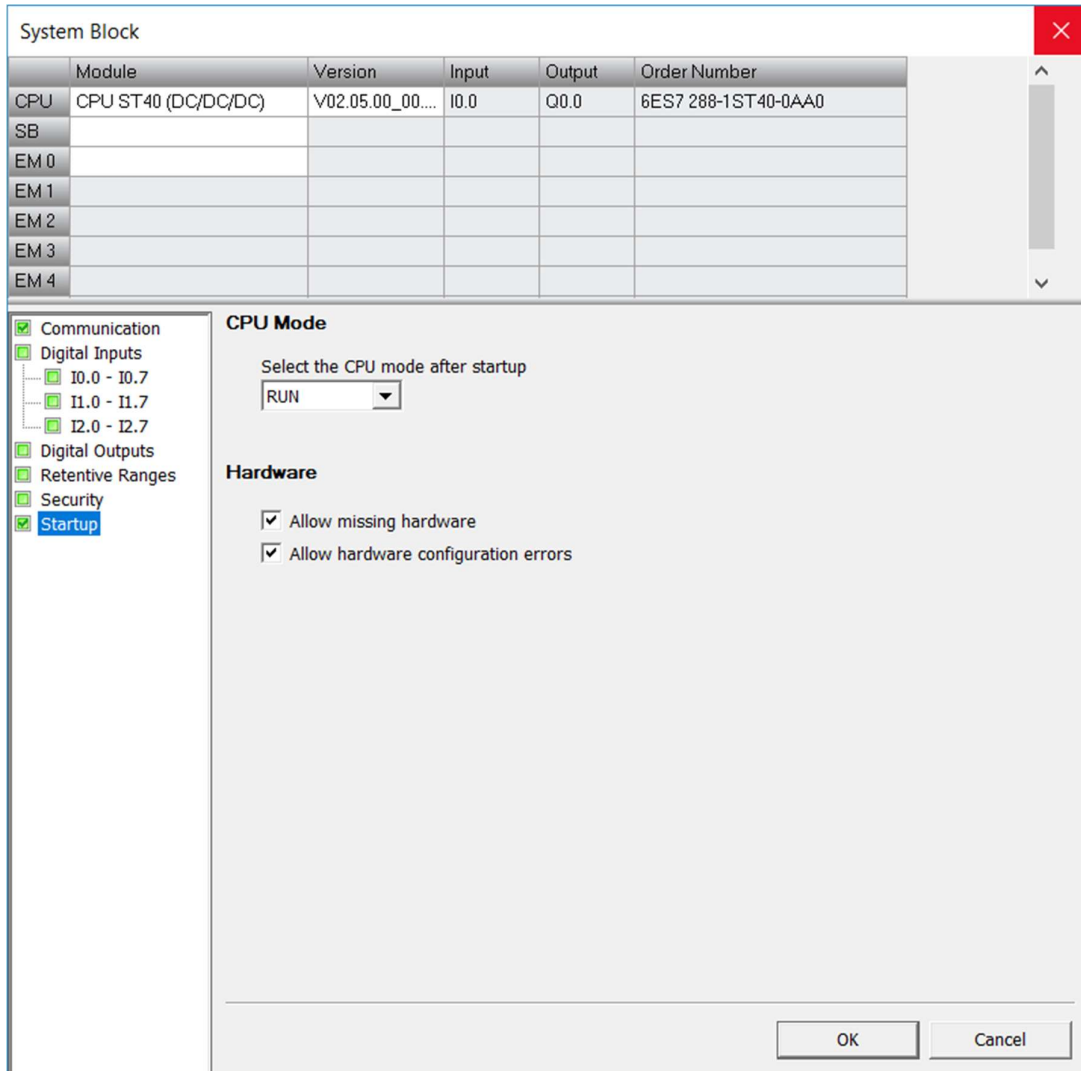

Figure 1. Add CPU to system block
- 1) Create a new project, open the system block, select CPU ST40, select CPU firmware V2.5, and set the mode after selecting CPU startup to run. As shown in Figure 1.